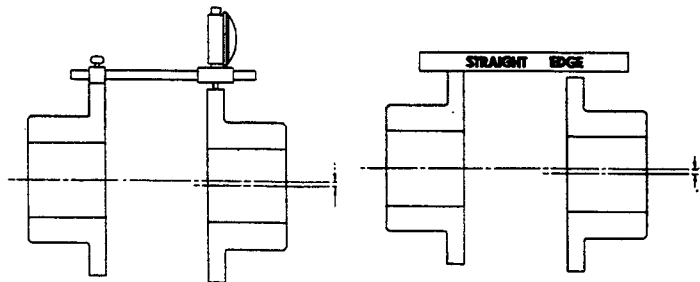

Figure 3
**D. Parallel Offset.** Rigidly mount a dial indicator on one hub or shaft, reading the other hub flange outside diameter, as shown in Figure 3. Indicator set-up sag must be compensated for. Rotate both shafts together. Adjust the equipment by shimming and/or moving so that the indicator reading is within .002 inch per inch of the axial length between flex elements. See Chart (A)